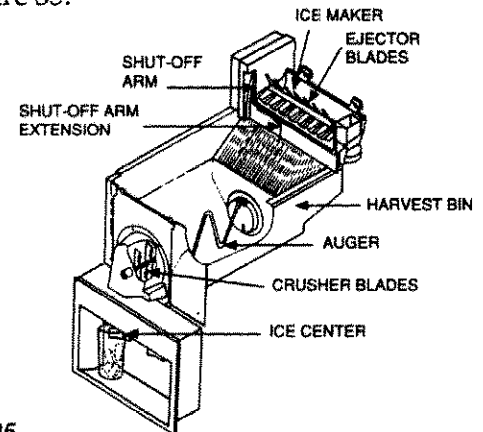

Figure 35
- When the Dispenser bar is pressed, a large auger moves cubes from bin to Dispenser, providing either cubes or crushed ice. See Figure 35.